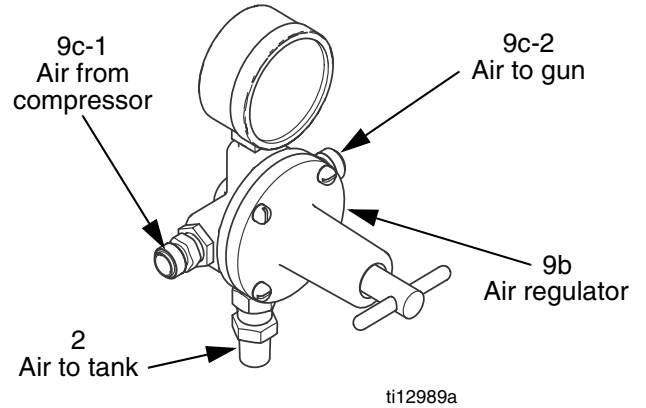
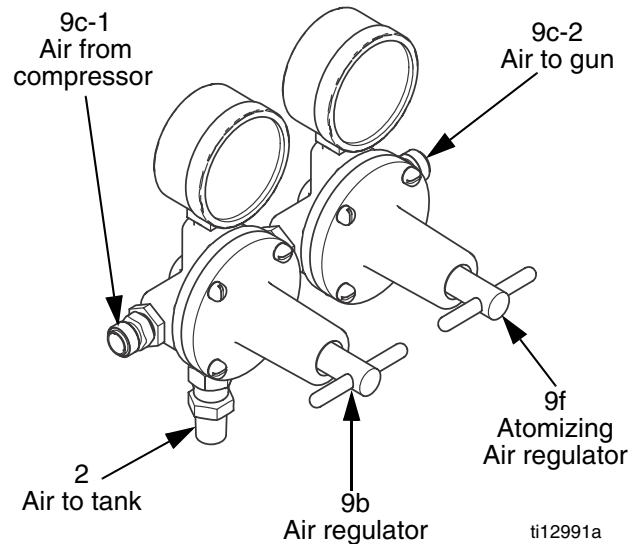

FIG. 3: Air connections for single-regulated tanks
FIG. 4: Air connections for dual-regulated tanks
- **Single-Regulated Tank (Model 24A555):** When the air pressure to the tank and the spray gun atomizing air are controlled by one regulator, regulated air controls the tank pressure and unregulated air is supplied to the spray gun. See FIG. 3.
- **Dual-Regulated Tank (Model 24A557):** For separate control of the atomizing air, a separate atomizing air regulator for the tank is supplied. See FIG. 4.
7. Connect an air supply hose to the 1/4 npt air inlet fitting (9c-1). Connect the gun's air atomizing hose to fitting (9c-2). See FIG. 3 for single-regulated tanks. See FIG. 4 for dual-regulated tanks.